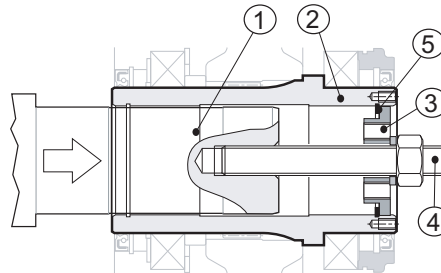

Fig. 12
Now insert the inner snap ring retaining ring (pos. 5) then the (pos. 3). Now when you tighten the threaded rod, the two shafts will abut against each other (see Fig. 12 (p. 25)).